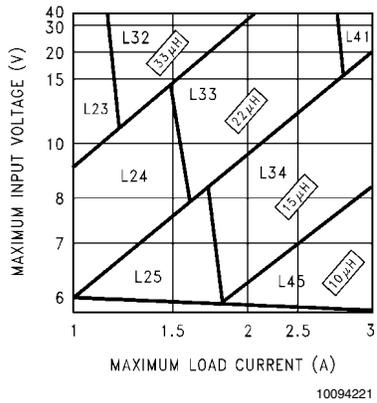
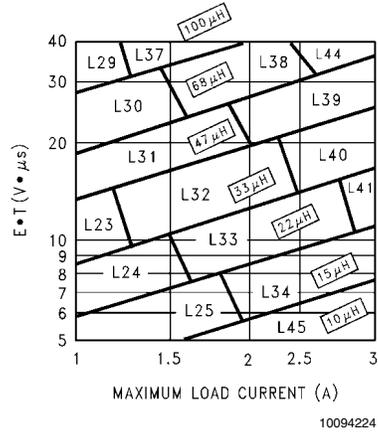

FIGURE 3. LM2670-3.3
FIGURE 6. LM2670-ADJ
Step 3: Determine the inductor required by using one of the four nomographs, *Figure 3* through *Figure 6*. Table 1 provides a specific manufacturer and part number for the inductor.
Step 5: Determine an input capacitor from Table 4 for fixed output voltage applications. Use Table 2 to find the specific capacitor type. For adjustable output circuits select a capacitor from Table 2 with a sufficient working voltage (WV) rating greater than $V_{in\ max}$, and an rms current rating greater than one-half the maximum load current (2 or more capacitors in parallel may be required).
Step 3: Use the nomograph for the 3.3V device, *Figure 3*. The intersection of the 16V horizontal line ($V_{in\ max}$) and the 2.5A vertical line ($I_{load\ max}$) indicates that L33, a $22\mu\text{H}$ inductor, is required.
Step 3: To use the nomograph for the adjustable device, Figure 6, requires a calculation of the inductor Volt•microsecond constant ($E \cdot T$ expressed in $V \cdot \mu s$) from the following formula:
Using Figure 6, the intersection of $27V \cdot \mu s$ horizontally and the 2A vertical line ($I_{load\ max}$) indicates that L38, a 68 μH inductor, should be used.
Important Note: When using the adjustable device in low voltage applications (less than 3V output), if the nomograph, Figure 6, selects an inductance of 22 μH or less, Table 6 does not provide an output capacitor solution. With these conditions the number of output capacitors required for stable operation becomes impractical. It is recommended to use either a 33 μH or 47 μH inductor and the output capacitors from Table 6.